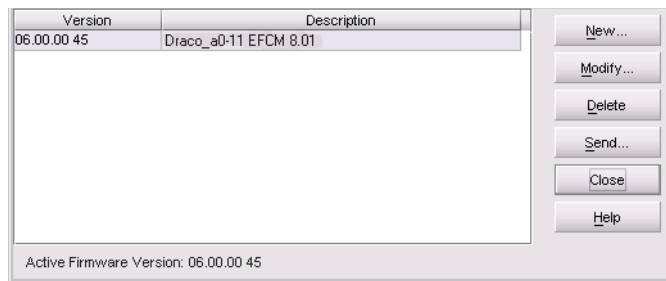

Figure 48: Firmware Library dialog box
3. Choose **Maintenance > Firmware Library**. The Firmware Library dialog box displays (Figure 48).
3. Choose **Maintenance > Firmware Library**. The Switch Firmware Library dialog box displays, as shown in Figure 48.
3. Choose **Maintenance > Firmware Library**. The Switch Firmware Library dialog box displays, as shown in Figure 48 on page 114.
5. Choose **Maintenance > Firmware Library**. The Switch Firmware Library dialog box displays, as shown in Figure 48 on page 114.